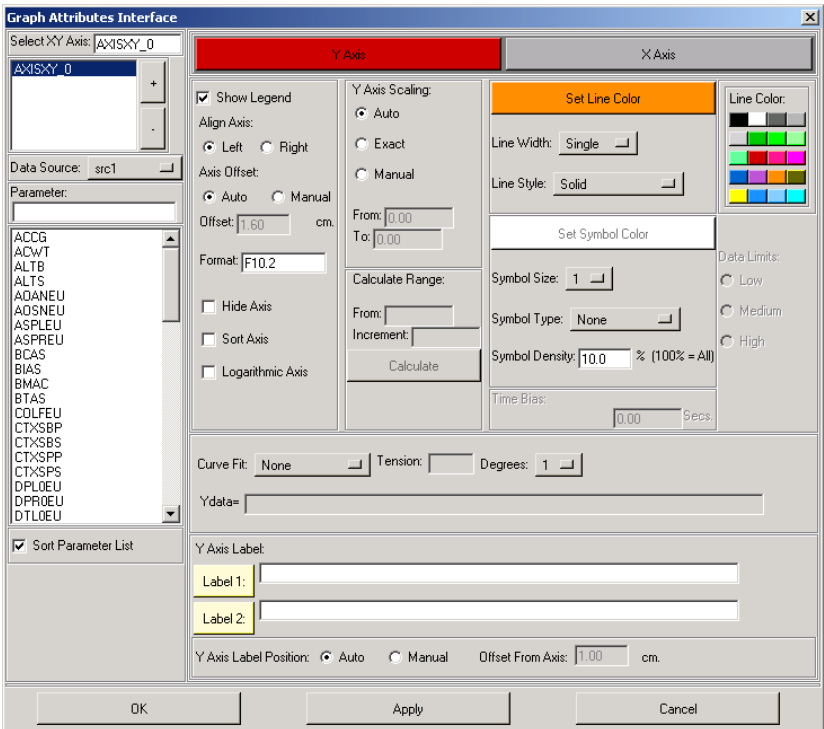

Figure 3-6 The Graph Attributes Interface
- Step 2** Double click inside the Graph object. The **Graph Attributes Interface** appears, as shown in *Figure 3-6*.